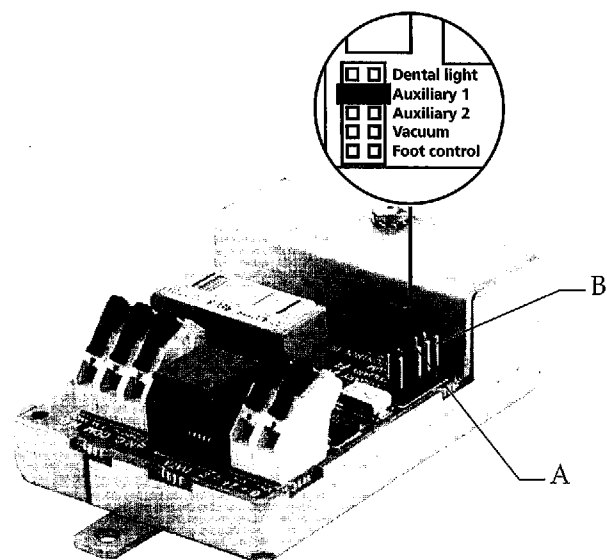

Figure 97. Jumper position on the A-dec relay module. (A) jumper; (B) test points
4. Move the jumper on the terminal strip to the appropriate position (see Figure 97).